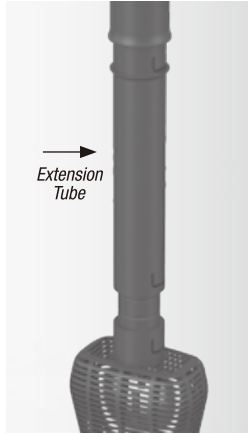
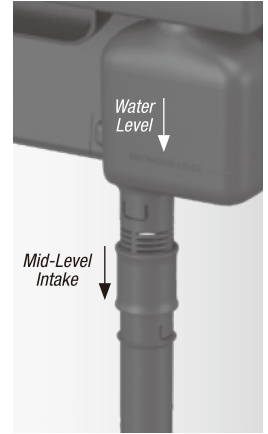

Fig. 2
Fig. 3
- 3 Assemble tube parts** so that the strainer sits approximately 1 to 2 inches above your gravel (this may require you to either include or leave out the extension tube) (Fig. 2). If desired, open the mid-level intake by sliding the intake shaft down (Fig. 3).
- 4 Place filter** in back of your aquarium but do not plug in yet. Ensure your water level is at or above the minimum water level engraved on the Filter Motor (Fig. 3).